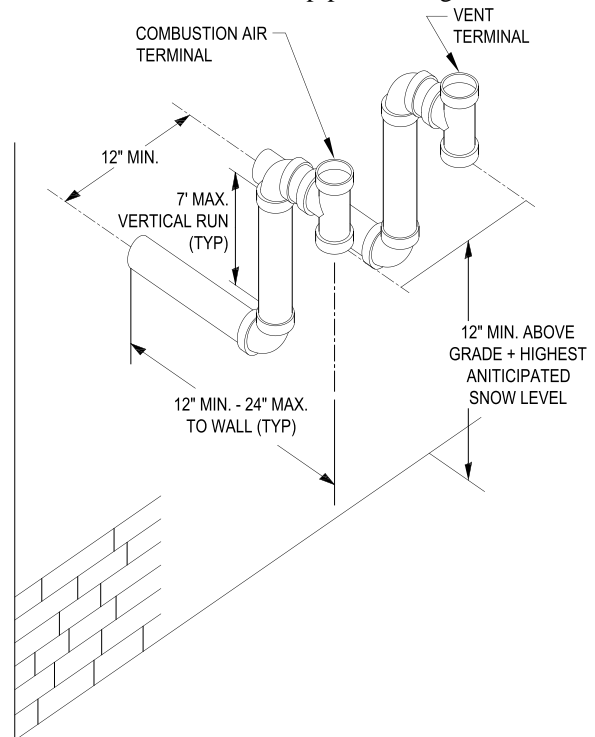

Figure 11: Direct Vent - Optional Side Wall Snorkel Terminations
5. Install maximum vertical run of seven (7) feet of Schedule 40 PVC vent pipe. See Figure 11.
- ** These sections have plain male end and beaded female end. See Figure 11 for details.